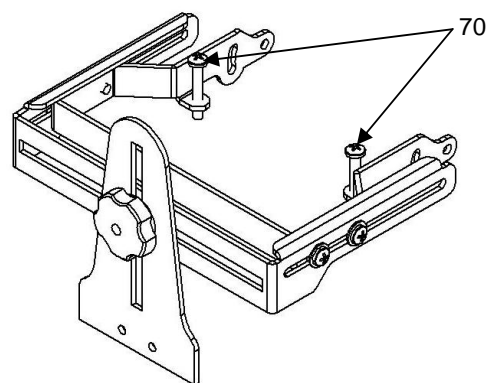

**Figure 5. Attach NAV-1 to RPA**
4. Slide the NAV-1 over the RPA projector mount, as shown in Figure 5.
6. Locate the parts bag supplied with the NAV-1. Find four 5/8" screws (80) and four #10 washers (90).
**NOTE:** Leave the four screws (80) loose. These screws will be adjusted and tightened later.
7. Attach the NAV-1 to the RPA by installing four screws (80) and washers (90) into the threaded holes on the RPA. Figure 5.